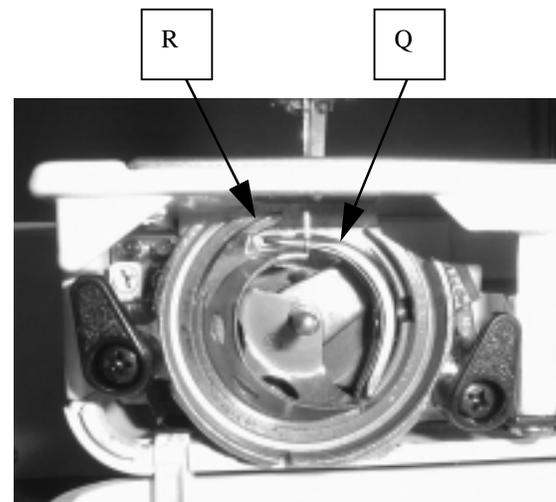

FIGURE 2-12
- Set the part(Q) of the hook race body(unit) and hook body tip(R) to the phase shown in Fig.2-12 approximately.